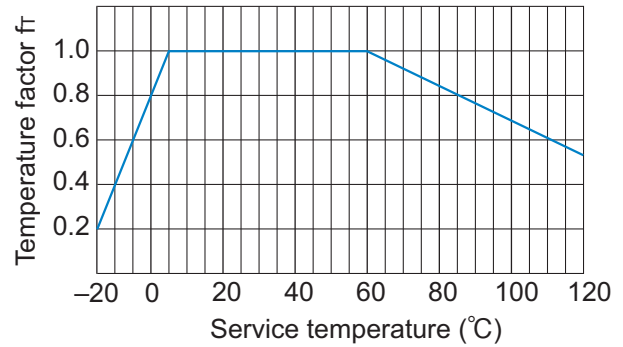

Fig.2 Temperature Factor
If the temperature of the change nut exceeds the normal temperature range, the seizure resistance of the nut and the strength of the material will decrease. Therefore, it is necessary to multiply the dynamic permissible torque (T) and the dynamic permissible thrust (F) by the corresponding temperature factor indicated in Fig.2.
$f_T$  : Temperature factor (see Fig.2)